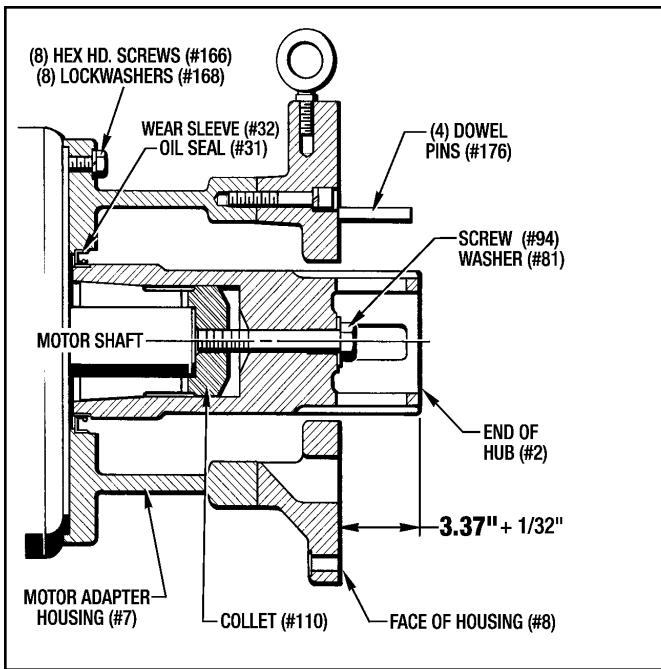

Figure 3.6 - Installing Motor Adapter Housing (#7) and Positioning The Hub (#2) and Collet (#110) on The Motor Shaft
- Attach the Motor Adapter Housing (#7) and Housing (#8) to the motor mounting face with the (8) Hex Hd. Screws (#166) and (8) Lockwashers (#168). **Torque to 120 Lb. Ft.**
- Position the Hub (#2) as shown in *Figure 3.6*. Measure the distance from the end of the Hub (#2) to the face of the Motor Adapter Housing (#7). This distance should be **3.37" + 1/32"**. (*Figure 3.6 is on the next page*)